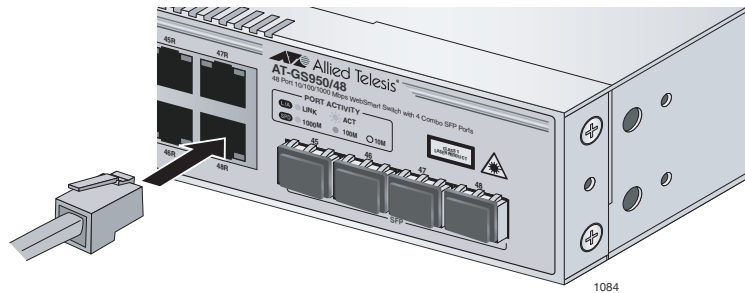

Figure 11. Connecting the Twisted Pair Data Cables
1. Plug the twisted pair data cables to the RJ-45 ports on the switch, as shown in Figure 11.